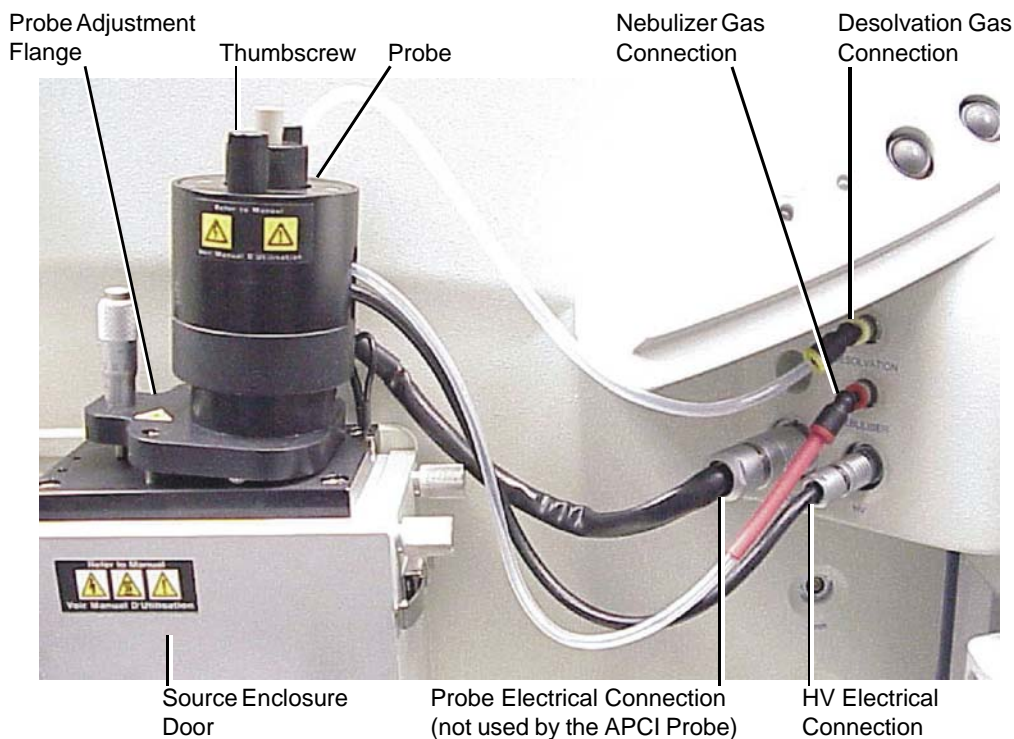

Figure 7-2 Probe Connections (ESI Probe Shown as an Example)
6. Disconnect the electrical connection(s) at the instrument front panel (Figure 7-2).
1. Unfasten the source enclosure door's securing clips and open the door (see Figure 7-2).
2. Disconnect the Probe electrical connection at the instrument front panel (see Figure 7-2).
3. Disconnect the PTFE tubing at the Desolvation gas connection on the front panel (see Figure 7-2).